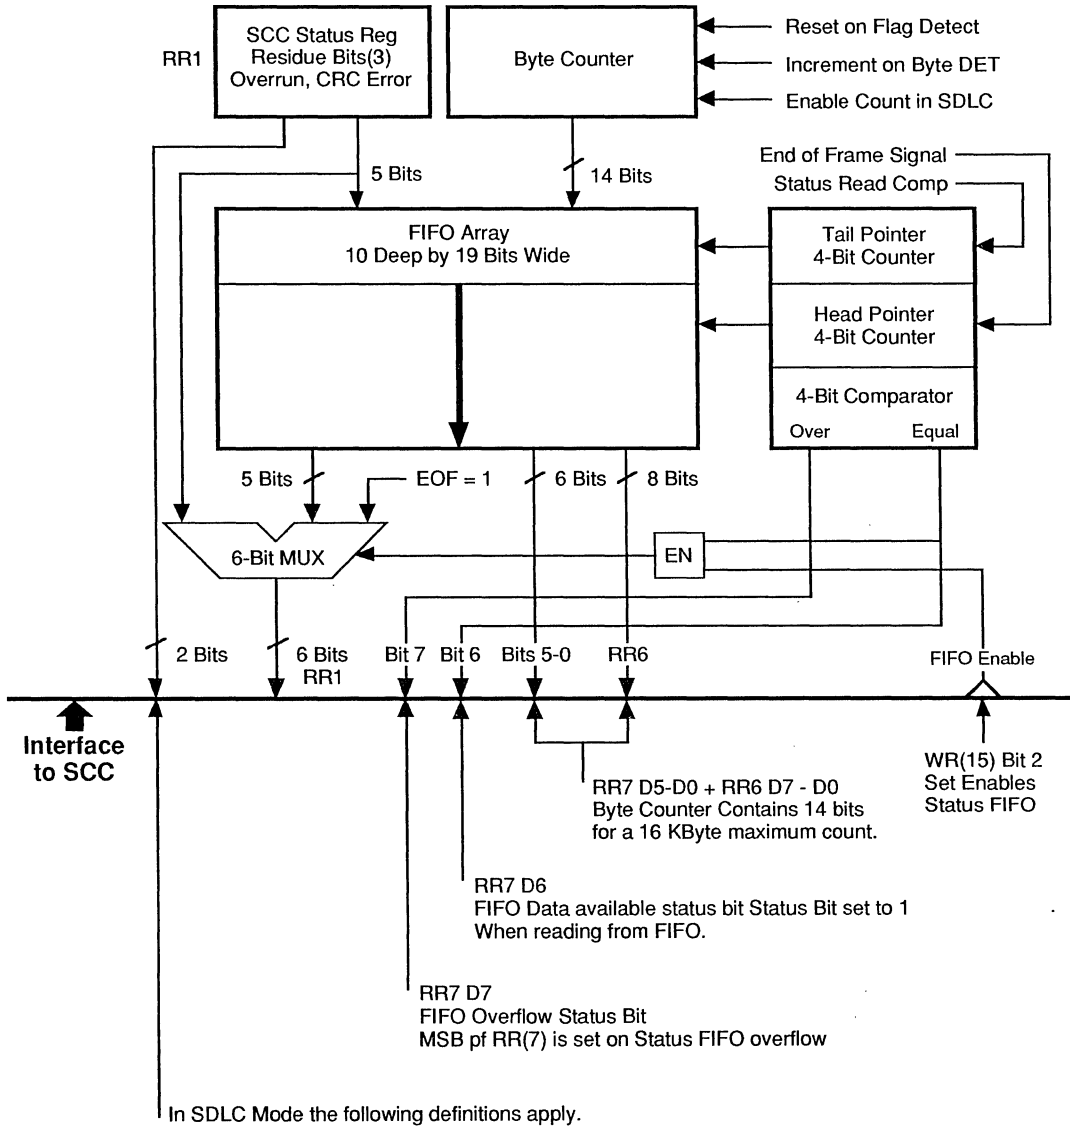

Figure 14. SCC Status Register Modifications
Additional logic was added to the industry standard NMOS SCC consisting of a 10 deep by 19 bit status FIFO, 14-bit receive byte counter, and control logic as shown in Figure 14. The 10 x 19 bit status FIFO is separate from the existing three byte receive data FIFO.
**FIFO Detail.** For a better understanding of details of the FIFO operation, refer to the block diagram contained in Figure 14.
**Byte Counter Detail.** The 14-bit byte counter allows for packets up to 16K bytes to be received. For a better understanding of its operation refer to Figures 14 and 15.